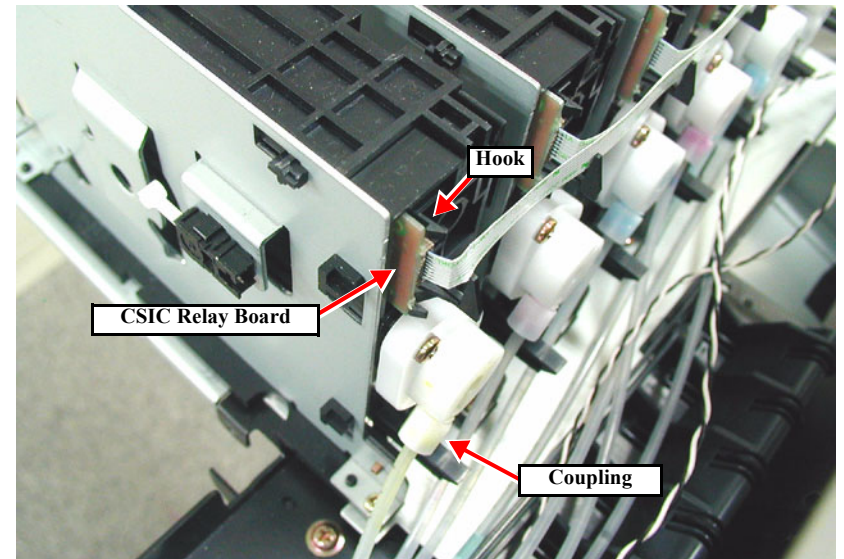

Figure 4-67. CSIC Relay Board Removal
- Disengage the two hooks on the back of the relevant Ink Holder ASSY and draw out the CSIC Relay Board. (See Figure 4-67)